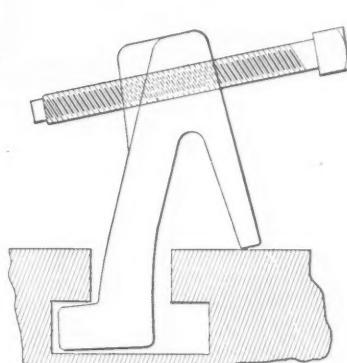
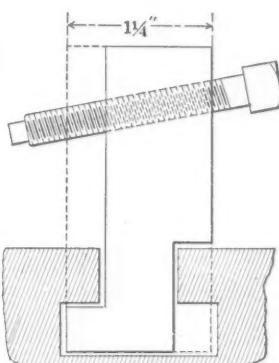

Fig. 3.
Fig. 4.
W. W. Cowles, Torrington, Conn., says that sketches Figs. 3 and 4 show two handy poppets for the lathe, planer, milling machine, surface grinder, etc. The poppet shown in Fig. 3 is made of cast steel as cast-iron is too brittle. The illustration shows its form clearly. The poppet shown in Fig. 4 can be made